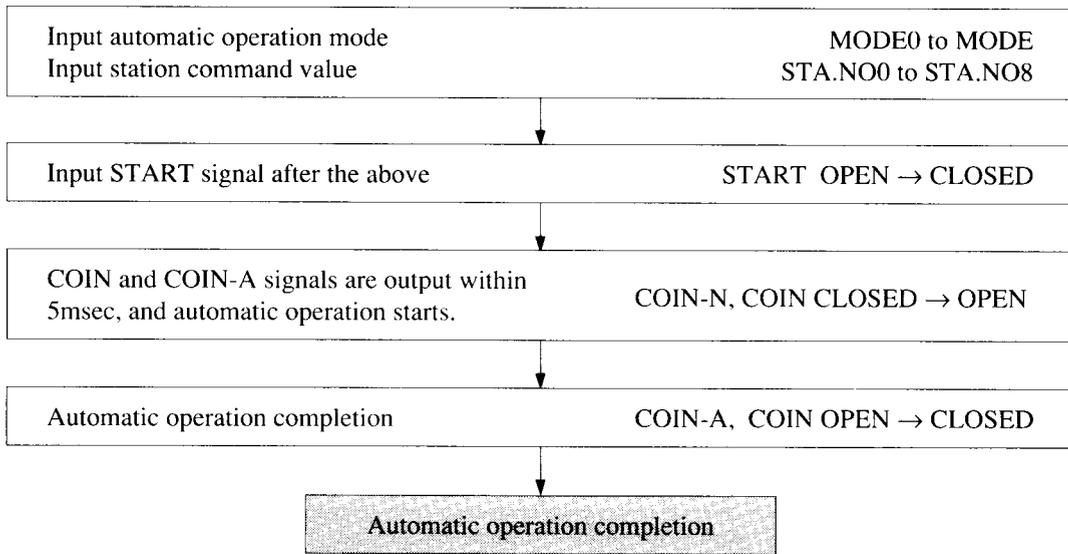

Fig. 4.8 Sequence of Automatic Operation
- Sequence** Fig. 4.8 shows the sequence of automatic operation.